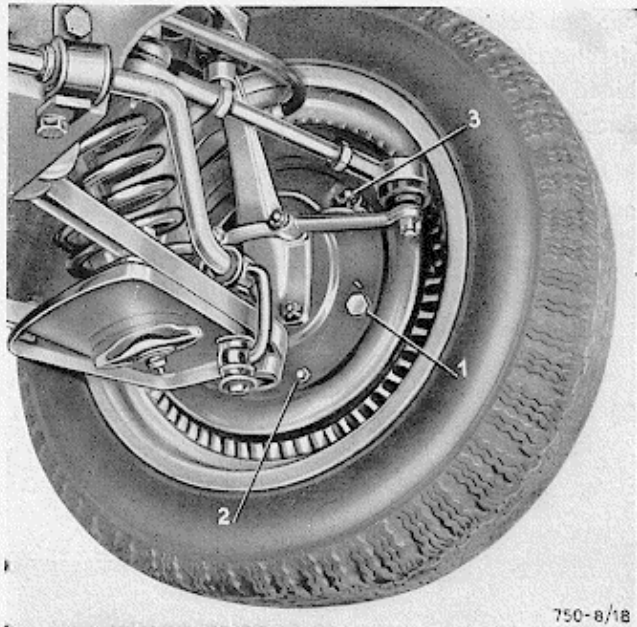

Fig. 19 - Bleeding the front-wheel brake cylinders and adjusting the play between the shoes and drum
Lock the shoes by working on the adjusting pin 1 (Figs. 19 and 14); and then turn the screw backwards until the drum begins to be free.
- 3) Bleed the front wheel cylinder as follows (see Fig. 19):